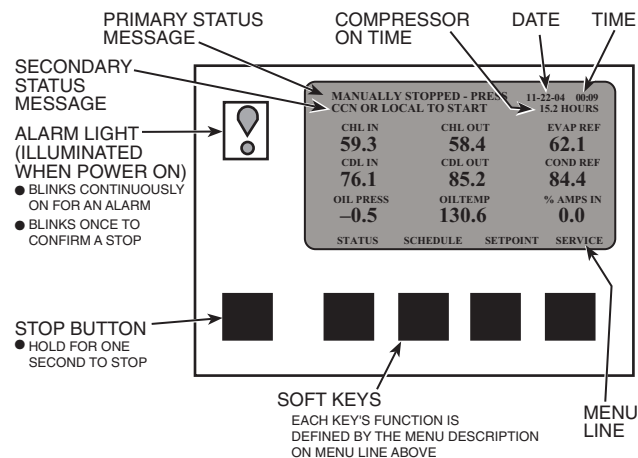

Fig. 24 — ICVC Default Screen
- The ICVC display automatically reverts to the default screen after 15 minutes if no softkey activity takes place (Fig. 24).